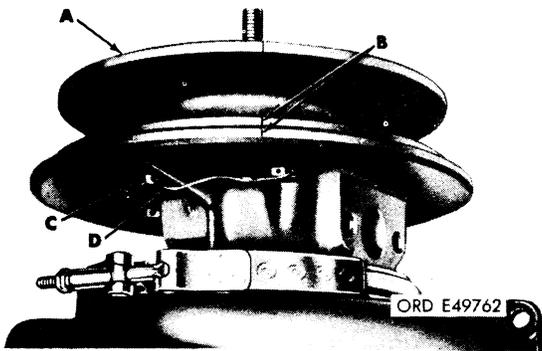

FIGURE 56. INSTALLING COMPRESSOR BACK PLATE AND PERFORMED PACKING ON BEARING HOUSING - TURBOCHARGERS 10912638 AND 53591-C-139552.
- (b) Place collar ring expander sleeve - 10899147 (B) over flinger sleeve.
- (c) Install two new piston rings (C) into groove of flinger sleeve (A). Rotate rings until gaps are 180 degrees apart. Lubricate rings with engine oil (OE).
- (d) Remove collar ring expander sleeve (B).
- (2) Refer to figure 56.
- (a) Place packing in mating surface groove of compressor back plate (A).
- (c) Position compressor back plate over shaft and turbine wheel and against bearing housing. Make certain scribe marks (B) are aligned.
- (d) On turbocharger 53591-C-139552, secure compressor back plate to bearing housing with five sealing washers and cap screws (C).